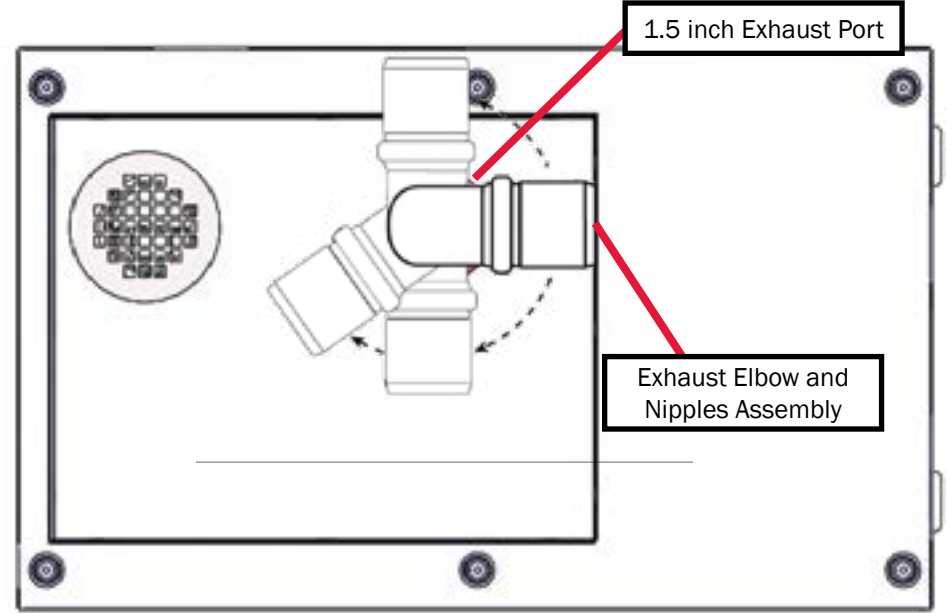
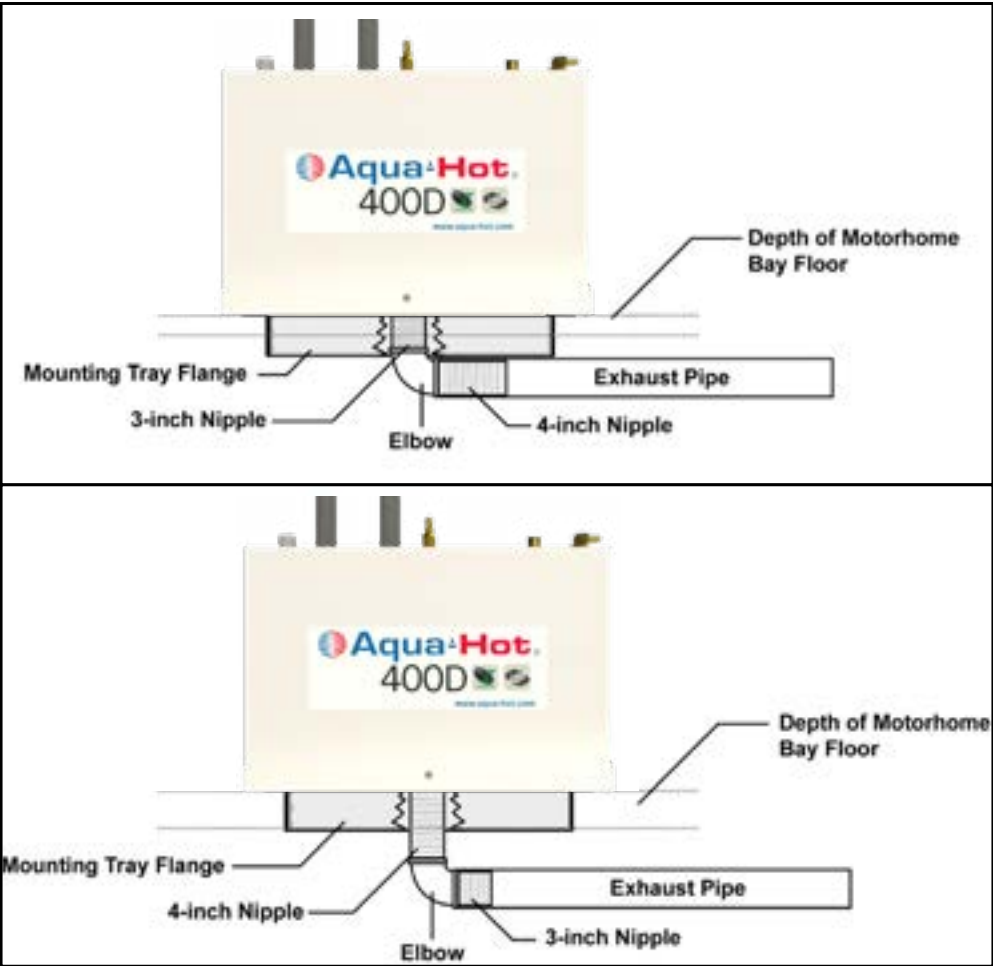

Figure 16
Figure 17
- Angle the exhaust pipe towards the rear of the vehicle, so that exhaust fumes will naturally move away while the vehicle is in motion. See Figure 16.
- The Aqua-Hot is supplied with a 3 inch and 4 inch black pipe nipple (1.5 inch diameter) along with a 1.5 inch exhaust elbow. Reference Figure 16. These three exhaust system components MUST BE utilized with all product installations. Be sure to reference Figure 17 and 18 to determine which exhaust nipple should be connected directly to the Aqua-Hot's exhaust port (the 3 inch of the 4 inch black pipe nipple).